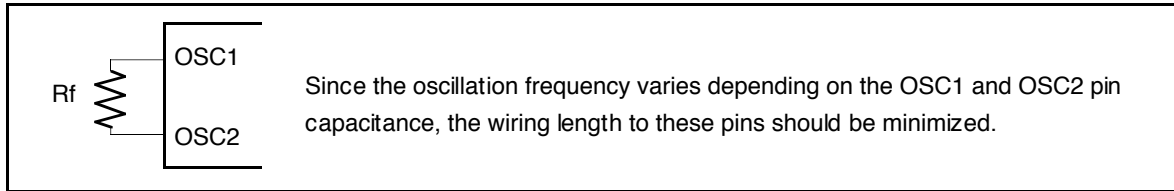

Figure 59 Internal Oscillation
10. Applies to the internal oscillator operations using external oscillation resistor R_f (figure 59 and table 28).